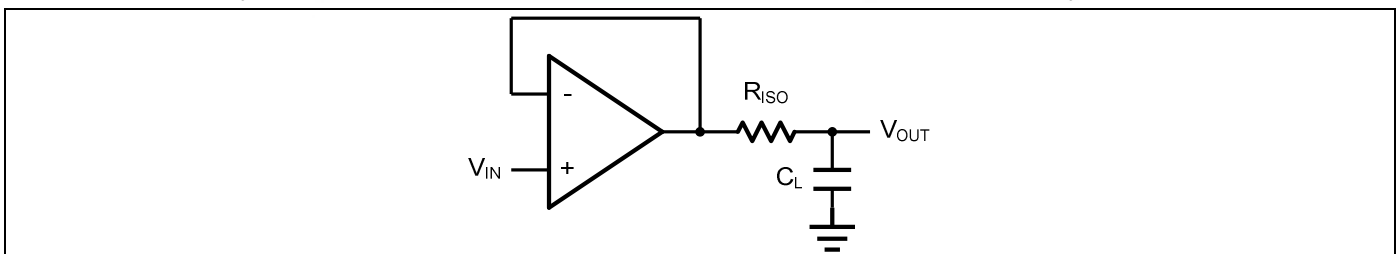
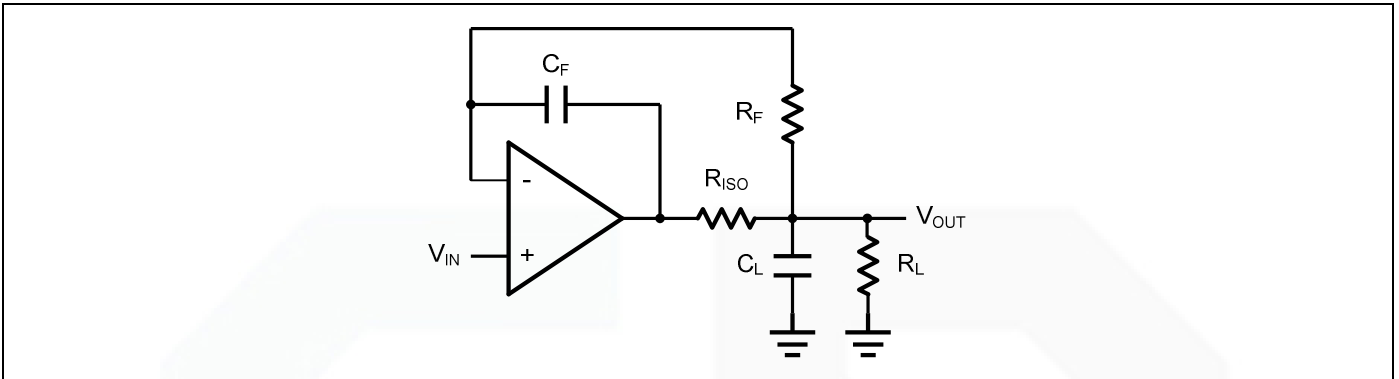

Figure 2. Indirectly Driving a Capacitive Load Using Isolation Resistor
Figure 3. Indirectly Driving a Capacitive Load with DC Accuracy
The GS833X family is optimized for bandwidth and speed, not for driving capacitive loads. Output capacitance will create a pole in the amplifier's feedback path, leading to excessive peaking and potential oscillation. If dealing with load capacitance is a requirement of the application, the two strategies to consider are (1) using a small resistor in series with the amplifier's output and the load capacitance and (2) reducing the bandwidth of the amplifier's feedback loop by increasing the overall noise gain. Figure 2. shows a unity gain follower using the series resistor strategy. The resistor isolates the output from the capacitance and, more importantly, creates a zero in the feedback path that compensates for the pole created by the output capacitance.
The circuit in Figure 3 is an improvement to the one in Figure 2.  $R_F$  provides the DC accuracy by feed-forward the  $V_{IN}$  to  $R_L$ .  $C_F$  and  $R_{ISO}$  serve to counteract the loss of phase margin by feeding the high frequency component of the output signal back to the amplifier's inverting input, thereby preserving the phase margin in the overall feedback loop. Capacitive drive can be increased by increasing the value of  $C_F$ . This in turn will slow down the pulse response.